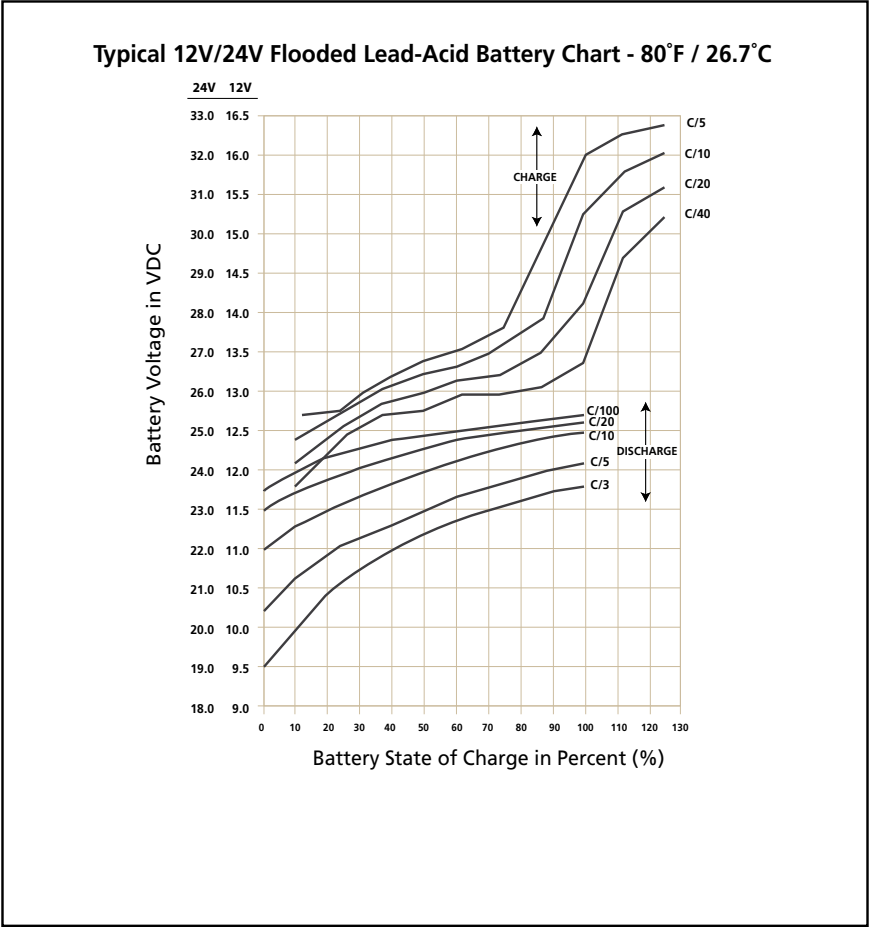

Fig 7.1 Charging / Discharging Curves for Typical 12V/24V Flooded Lead Acid Battery
7.7.1 Fig 7.1 shows examples of State of Charge / Discharge Curves for different C-rates for typical 12V / 24V Lead Acid Battery at 80°F / 26.7°C. These curves are used to determine the State of Charge / Discharge of the battery based on its terminal voltage.
7.7.2 Example of Determining State of Charge (using Fig 7.1) when Charging 12V, 100Ah Battery at C-rate of 0.1C or C/10 or 10A: Refer to Charge Curve marked C/10 of the upper 4 curves marked "CHARGE". States of Charge at different battery terminal voltages will be: (a) At 15.3V = 100% charged; (b) At 14.3V = 90% charged; (c) At 13.5V = 70% charged; (d) At 12.5V = 15% charged
7.7.3 Example of Determining State of Discharge (using Fig 7.1) when Discharging 12V, 100Ah Battery at C-rate of 0.33C or C/3 or 33.3A: Refer to Charge Curve marked C/3 of the lower 4 curves marked "DISCHARGE". States of Discharge at different battery terminal voltages will be: [a] At 9.5V = 100% discharged (0% charged); [b] At 10.4V = 80% discharged (20% charged); [c] At 11.5V = 28% discharged (72% charged) and [d] 11.75V = 0% discharged (100% charged)
The discharge curves in Fig. 7.1 show the % State of Charge versus the terminal voltage of typical Flooded Lead Acid Battery under different charge /discharge currents, i.e. “C-rates” and fixed temperature of 80°F. (Please note that the X-Axis of the curves shows the % of State of Charge. The % of State of Discharge will be 100% - % State of Charge).
As stated earlier at Section 7.10, the buzzer alarm is triggered when the voltage at the DC input terminals of the inverter has dropped to around 10.5V to 10.7V for a 12V battery or 21V to 21.4V for a 24V battery at C-rate discharge current of C/5 Amps. Please note that the terminal voltage relative to a particular of State Discharge decreases with the rise in the value of the discharge current. For example, terminal voltages for a State of Discharge of 80% (State of Charge of 20%) for various discharge currents will be as given at Table 7.5 (Refer to Fig 7.1 for parameters and values shown in Table 7.5):
Inverters are normally provided with a protection to shut down the output of the inverter if the DC voltage at the input terminals of the inverter drops below a threshold of around 10V for a 12V battery or, 20V for 24V battery. Referring to the Discharge Curves given in Fig 7.1, the State of Discharge for various C-rate discharge currents for battery voltage of 10V/ 20V is as follows: (Please note that the X-Axis of the curves shows the % of State of Charge. The % of State of Discharge will be 100% - % State of Charge):